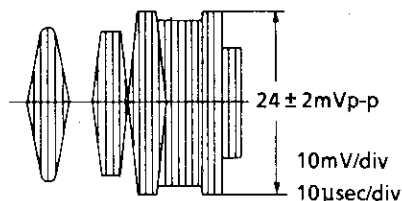

Figure 2-7.
- c) Adjust R504 (recording chroma control) so that the red level be $24 \pm 2\text{mVp-p}$ as shown in Figure 2-7.